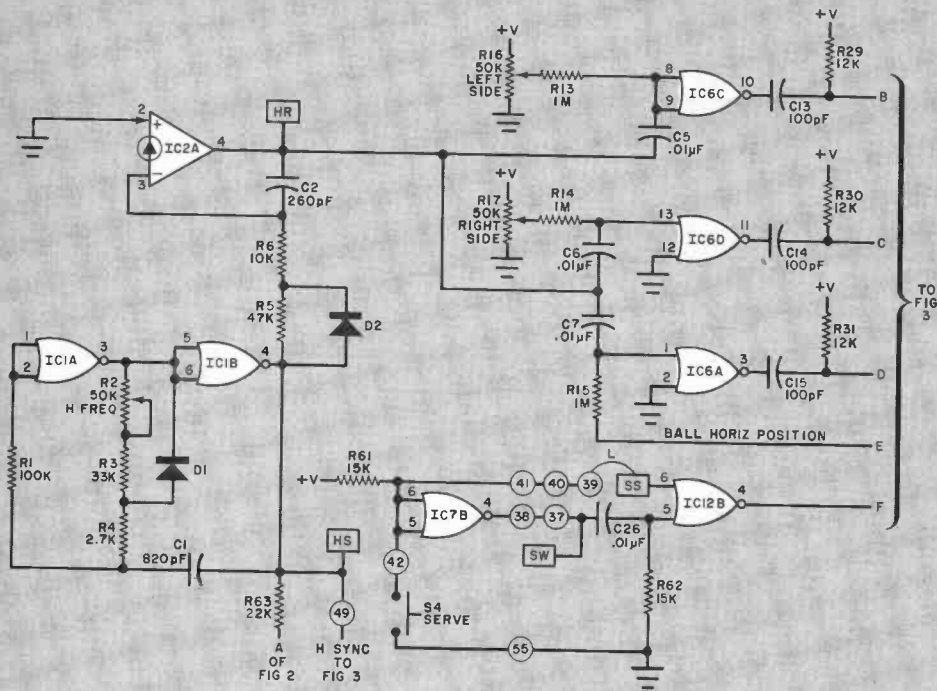

Fig. 1. Horizontal sync and ramp generator and associated comparators.
**About the Circuit.** The entire schematic diagram of the Pongtronics is shown in Figs. 1 through 4.